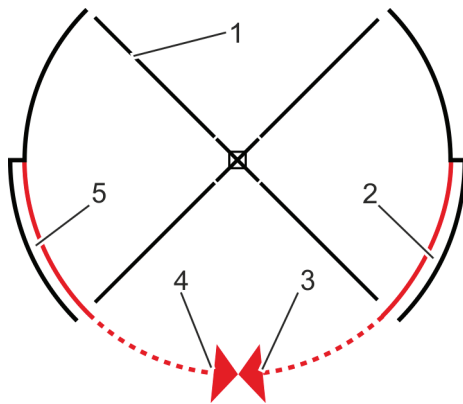
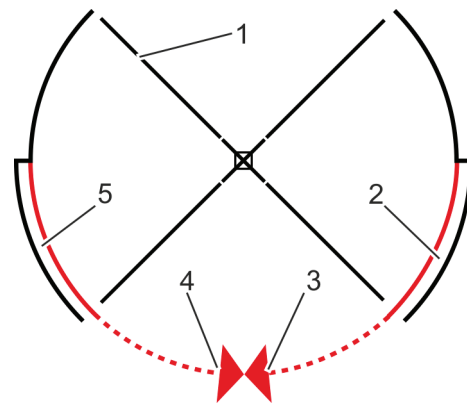

Fig. 31 Locking night shield elements (four wings)
Fig. 38 Locking night shield elements (four wings)
5. Enter the revolving door (Fig. 31) and turn the wings (Fig. 31/1) manually until you have reached the night shield (Fig. 31/3 + 4).
Unlock the night shield elements (Fig. 38/3 + 4) in the side pockets (Fig. 31/2 + 5) with the square key.
7. Pull the night shield elements (Fig. 31/3 + 4) out of the side pockets (Fig. 31/2 + 5) until the entrance is closed.
8. Lock the night shield elements (Fig. 31/3 + 4) with the square key.
Enter the revolving door (Fig. 38) and turn the wings (Fig. 38/1) manually until you have reached the night shield (Fig. 38/3 + 4).
3. Unlock the night shield elements (Fig. 38/3+4) in the side pockets (Fig. 38/2 + 5) with the square key.
4. Pull the night shield elements (Fig. 38/3 + 4) out of the side pockets (Fig. 38/2 + 5) and into the entrance area until the entrance is closed.
5. Lock the night shield elements (Fig. 38/3 + 4) with the square key.